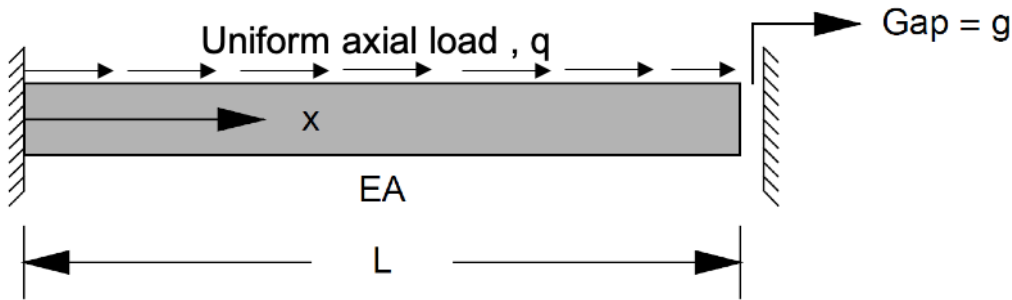

Figure 4
6. (16%) A uniform bar is subjected to uniform axial load q along its length. The bar is fixed at the left end but there is a gap of g between the support and the right end before the load is applied as shown in Figure 4. Assuming that the applied load is large enough to close the gap.